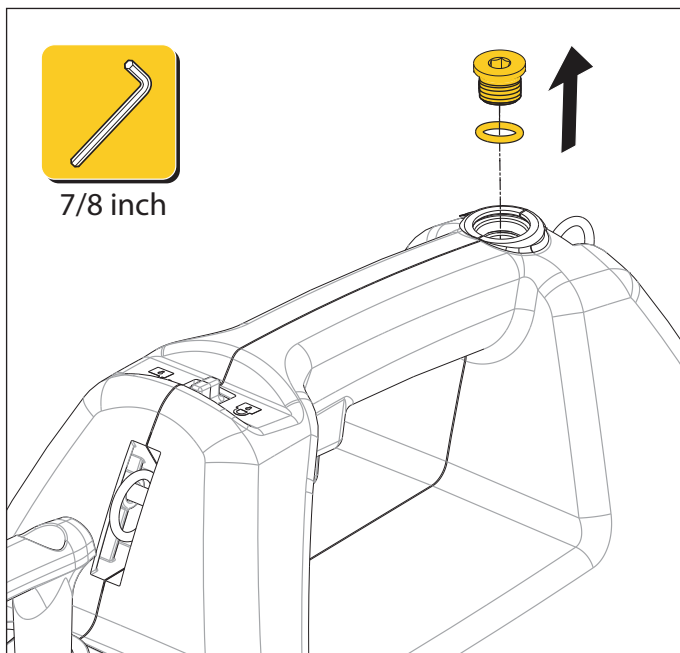

Figure 11, Checking Reservoir Oil Level
When hydraulic components are connected for the first time, air will be trapped in the components. To ensure smooth, safe operation, run the cylinder through several complete advance-retract cycles before placing the pump into service. Do this with no load on the cylinder and with the pump positioned higher than the cylinder. To allow for air venting, remove the pump oil fill plug and O-ring before beginning this procedure (See Fig 11).
5. Remove the oil fill plug and O-ring from the fill opening. Use a 7/8" Allen wrench. Be sure that the O-ring is removed with the plug. See Figure 11.